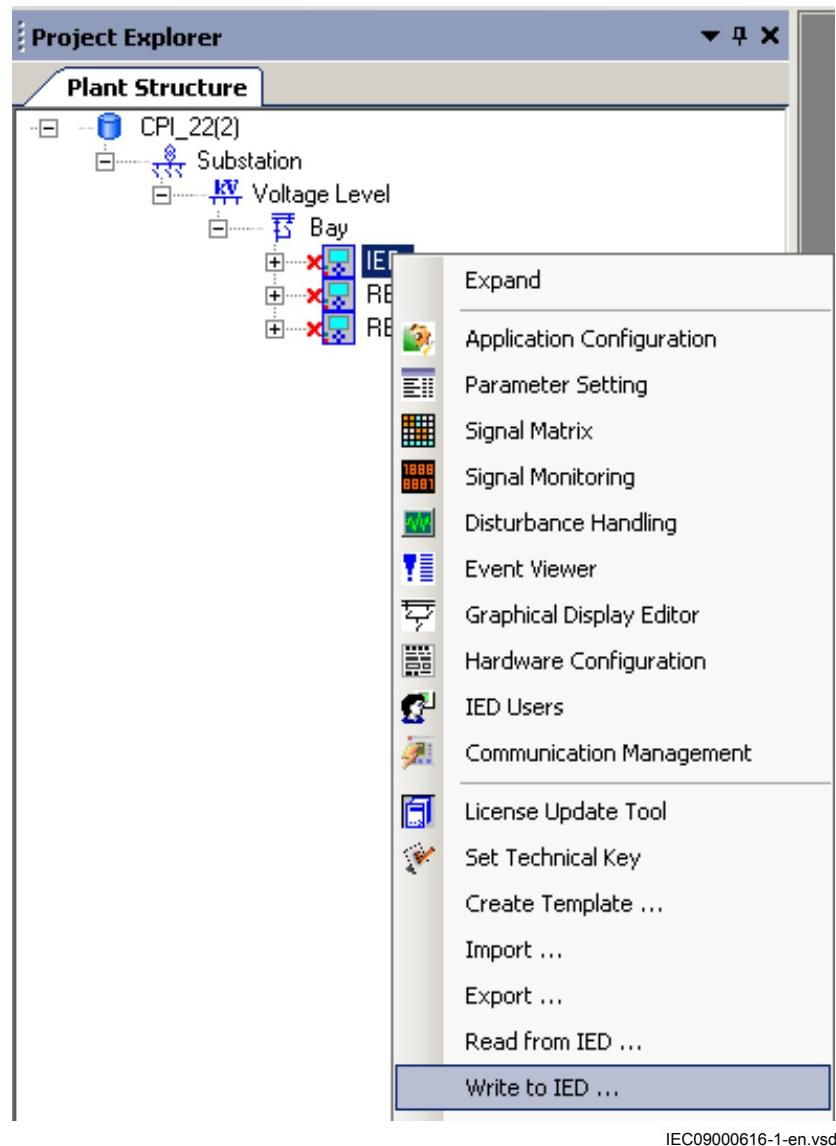

Figure 68: Common write menu
6. Write the configuration to the IED, see Figure 68.